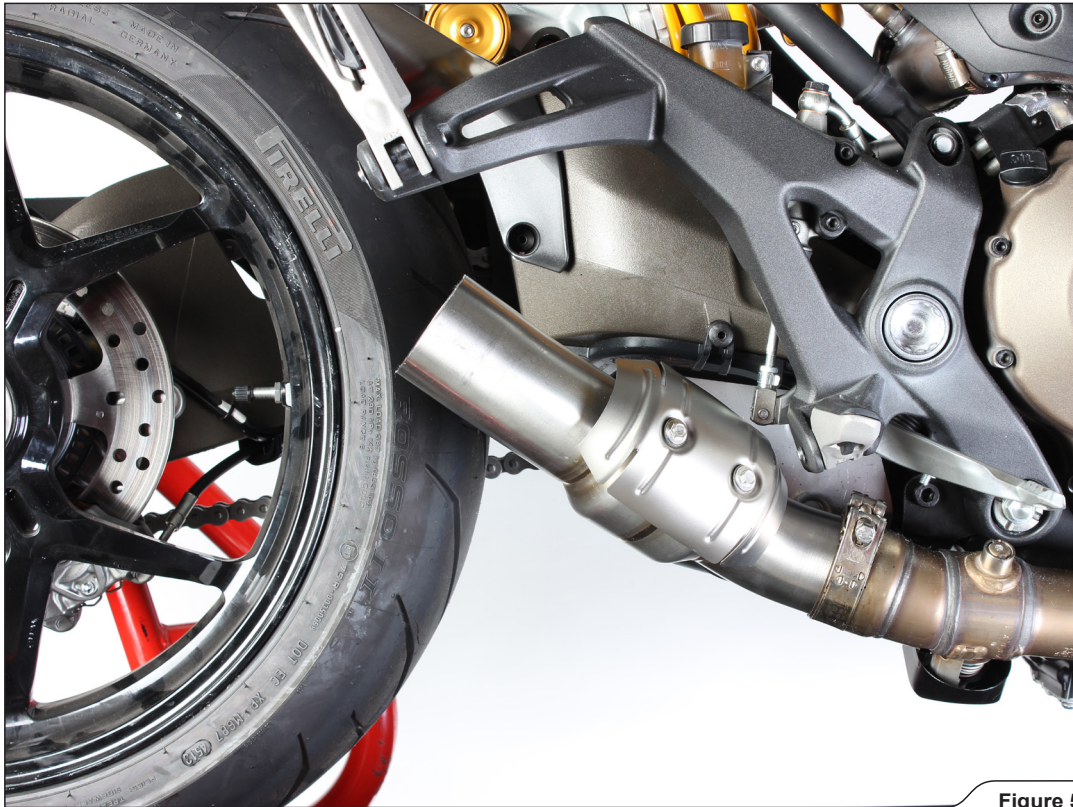

Figure 5
2. Insert the link pipe into the outlet side of the stock collector (Figure 5).